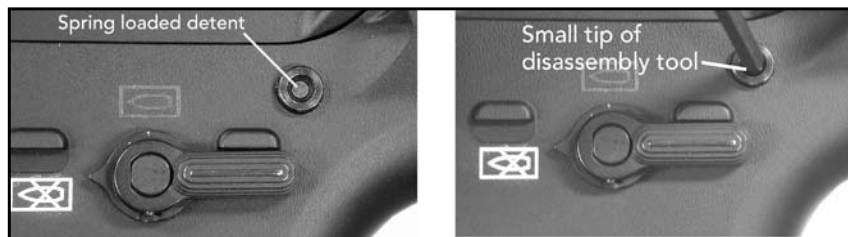

Fig. 66– Detail of the rear Takedown Pin showing spring loaded detent.
- d. Insert the small tip of the disassembly tool into the spring loaded detent located in the center of the rear takedown pin. While pushing on the disassembly tool, drift the takedown pin from right to left until the takedown pin reaches its limit of lateral travel. The tip of the takedown pin should be visible on the left hand side of the lower receiver (Fig. 66).